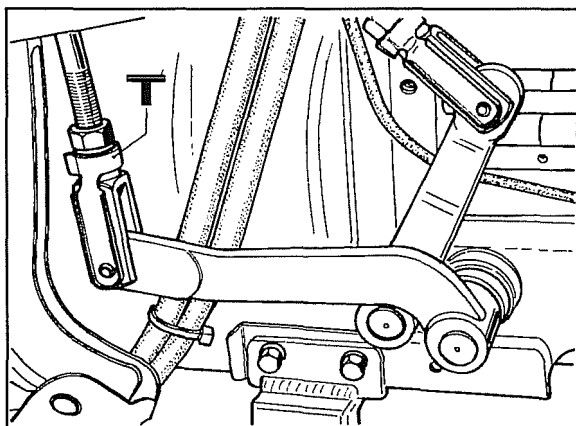
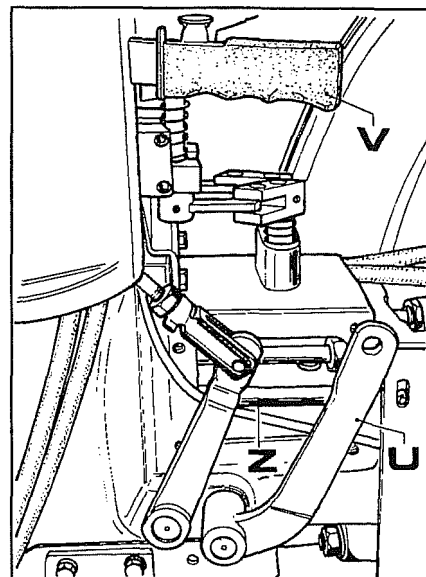
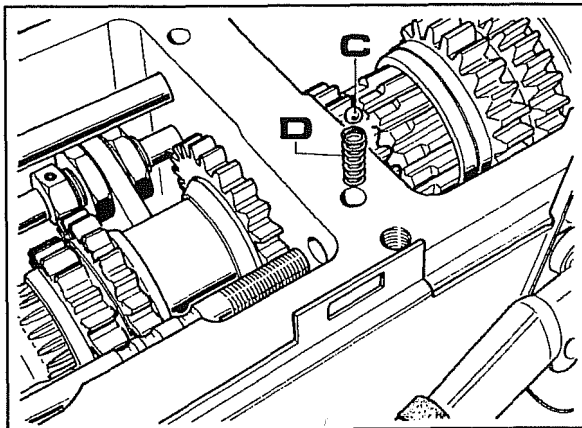
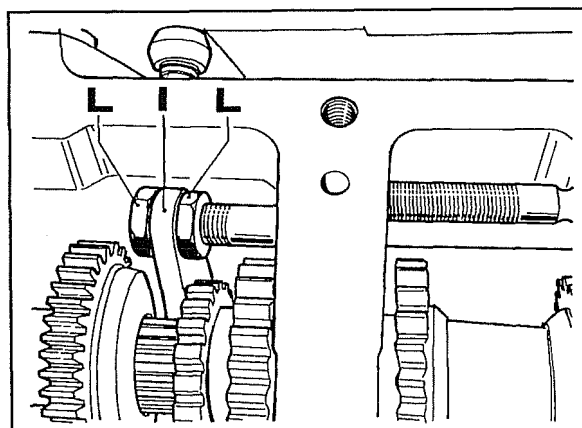

Fig. 9
Fig. 10
Fig. 11
Fig. 13
- 3 Disconnect the clutch pedal with fork **T** Fig.9 and turn it all the back as shown in **U**, Fig.10.
- 4 Engage the PTO clutch by lifting lever **V** Fig.10 as far as it will go.
- 5 Release rod **Z** Fig.10 by removing nuts **L** Fig.13 and then slip it forwards until the balls **C** and spring **D** Fig.11 are released.
- Reinsert sleeve **S** Fig.8, reinsert fork **I** and regulate it with nuts **L** Fig.13 as described below: